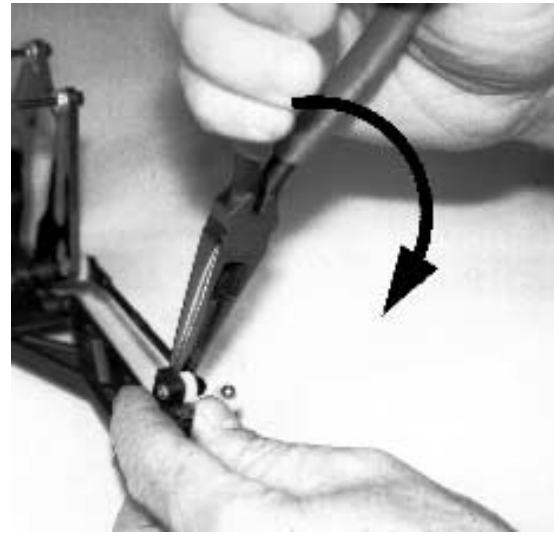

Fig. 22
□ **Fig. 22** The plastic ball cups can be removed quite easily from the balls by holding the ball cups close to the ball, as shown, and twisting the ball cup off of the ball end as fig. 22 shows.